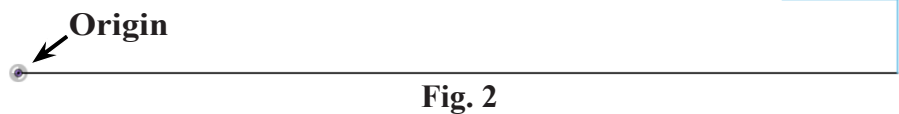

Fig. 2
Step 2. Click **Line**  (L) on the toolbar.
Step 3. Sketch **3 lines** starting at Origin , Fig. 2.